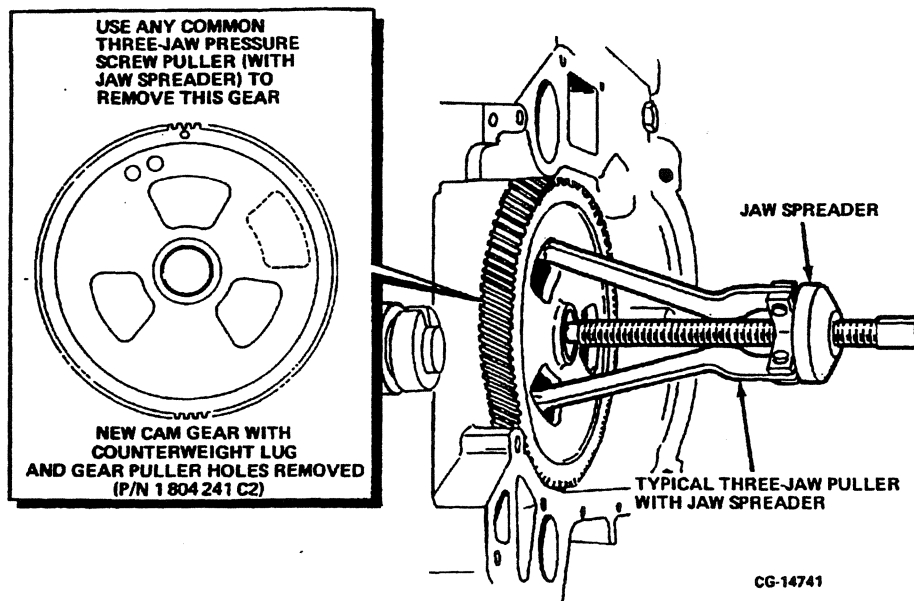

Figure 4.16B. Removing New Camshaft Gear Using Typical Three Jaw Puller.
5. The new cam gear w/counterweight lug and gear puller holes remover can not use the current tool ZTSE-2295-69. The new gear can be removed using any common three-jaw pressure screw puller [which has a spreader for the jaws]. Refer to Figure 4.16B.